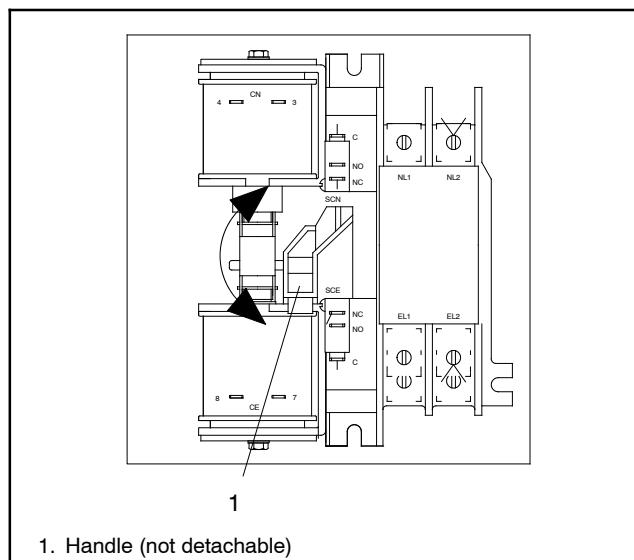
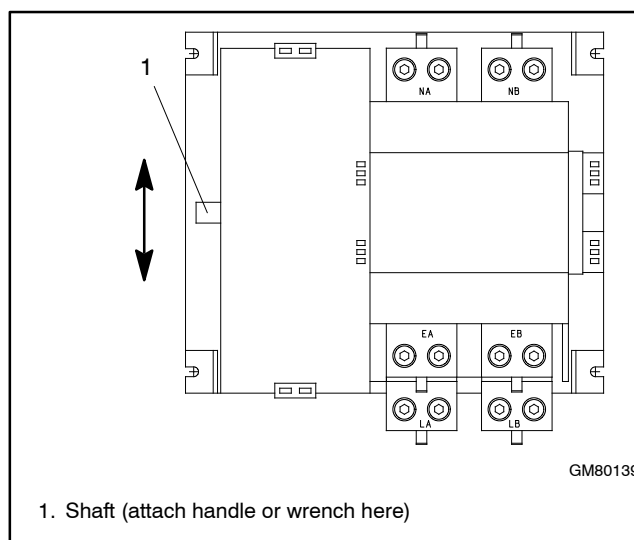

Figure 2-10 Manual Operation, 100 and 200 Amp Single-Phase Switches
Figure 2-11 Manual Operation, 300/400 Amp Single-Phase and 208-240 Volt Switches
- 100-200 amp switches: These switches have an attached handle as shown in Figure 2-10.
400 amp switches: Slide the detachable handle or a wrench over the shaft. See Figure 2-11.
- Move the handle up to place the transfer switch in the Normal Source position or down to place the contactor in the Emergency Source position. See Figure 2-10 or Figure 2-11.